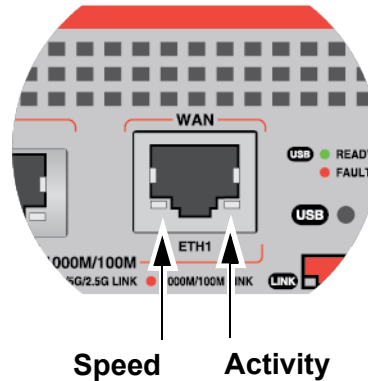

Figure 7. LEDs on the WAN ETH1 Port
**Port LEDs** The two LEDs on the WAN ETH1 port are identified in Figure 7 and defined in Table 4.